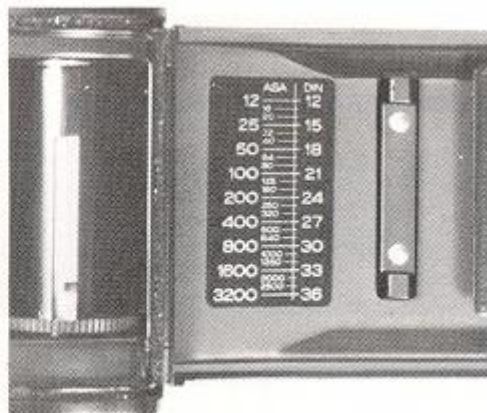

Fig. 12
* The scale represents the relation between ASA and DIN numbers is illustrated on the inside of Back Cover (37) (Fig. 12).